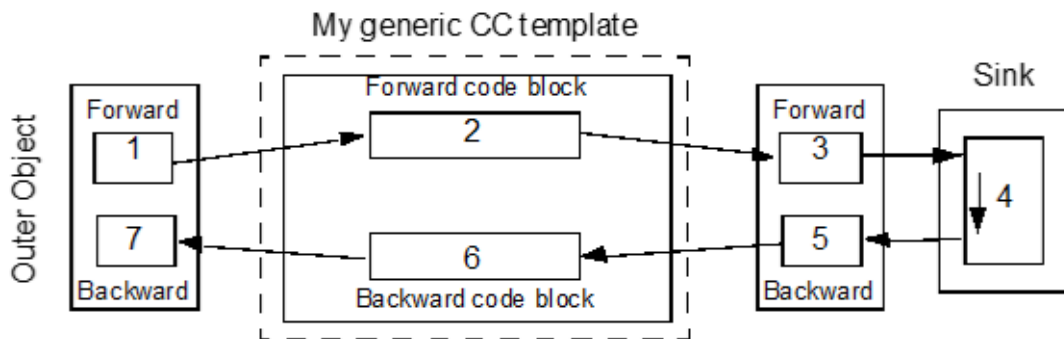

Figure 21. My generic CC template object has a generic solution which simply passes information forward to the next forward object
A generic solution continues to passing the information to the next forward block, which means that it relies on a Sink object (AO) at the end of the chain. A Sink Object (AO) is the most common to use at the end of the chain in a generic solution. It is the Sink that will change the data flow direction to go backwards (Figure 21).
As you can see in Figure 21 the Sink object contains both forward code and backward code in one code block. The backward direction sort order starts at the end of the Sink's common code block. The Sink is writing to the backward block, in this case No (5) in Figure 21.